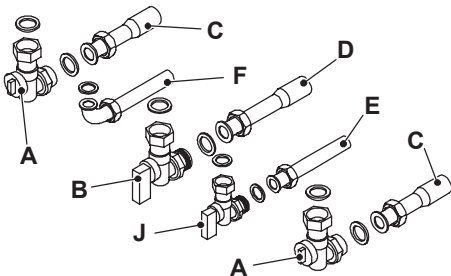

Fig. 6.3
- Fix the c.h. valves A and gas cock B ($\frac{3}{4}$ " to the boiler using the $\frac{3}{4}$ " gaskets (Fig. 6.3).